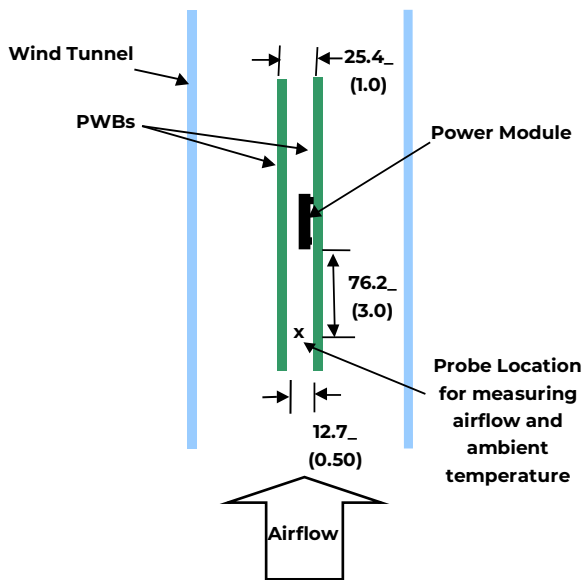
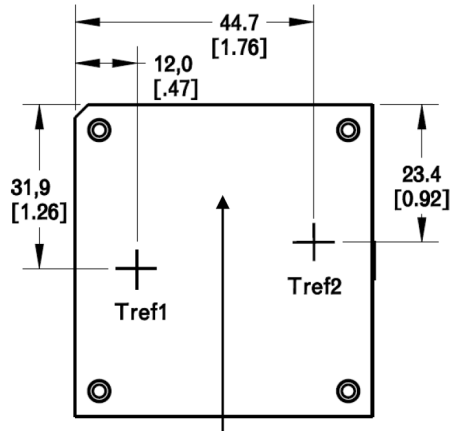

Figure 28. Thermal Test Set-up.
Figure 29. Location of hot-spots of the module ( $T_{ref1}$  and  $T_{ref2}$ ).
Considerations include ambient temperature, airflow, module power dissipation, and the need for increased reliability. A reduction in the operating temperature of the module will result in an increase in reliability. The thermal data presented here is based on physical measurements taken in a wind tunnel. The test set-up is shown in Figure 28. The preferred airflow direction for the module is in Figure 29.
The thermal reference points,  $T_{ref1}$  and  $T_{ref2}$  used in the specifications are also shown in Figure 29. For reliable operation the temperatures at these points should not exceed 98°C. The output power of the module should not exceed the rated power of the module ( $V_{o,set} \times I_{o,max}$ ).